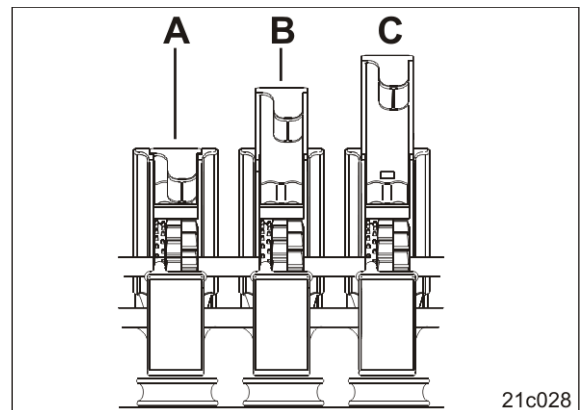

Fig. 143
2. Set the sliding shutters (Fig. 143) to the value from the table (see page 64).
The sliding shutters (Fig. 143) latch into one of three positions: